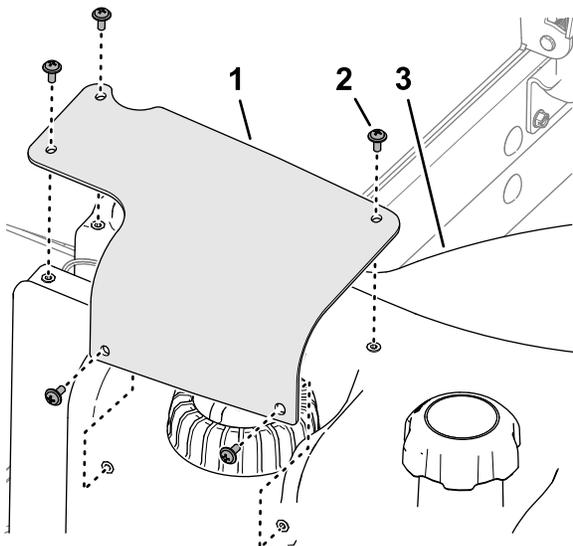

Figure 86
2. Remove the 5 Phillips-head screws that secure the fuel-sender cover to the fuel tank, and remove the cover (Figure 86).